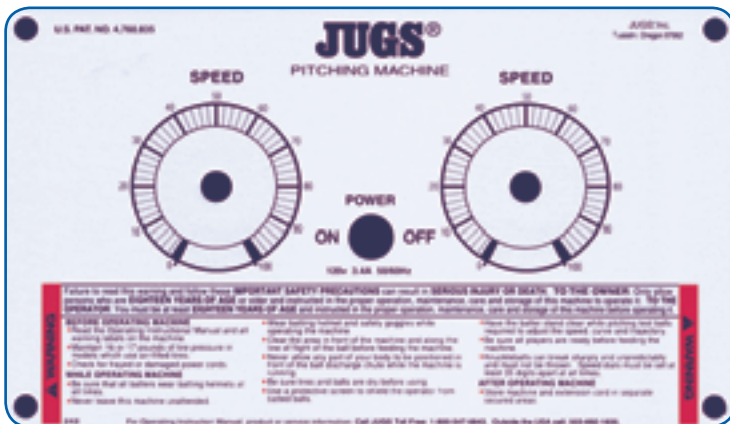

Figure 4. Control Panel
1. Place toggle switch on the Control Panel in the ON position (figure 4.) Gradually turn right-hand speed dial to full clockwise position. The right wheel will be turning rapidly clockwise and the left wheel will be turning slowly counter-clockwise.